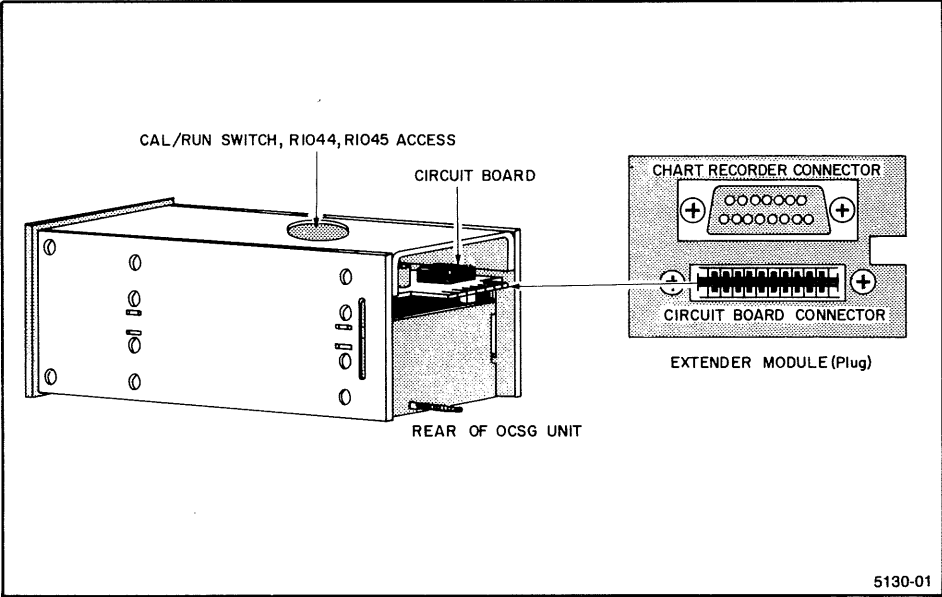

Fig. 2-2. OCSG Extender Module Cable Connector.
3. Attach the Extender Module cable to the circuit board connector at the rear of the OCSG (see Figure 2-2).
The circuit board connector is not keyed. When correctly connected to the Extender Module cable, the connector that is used with the chart recorder is located above the OCSG connector as shown in Figure 2-2.